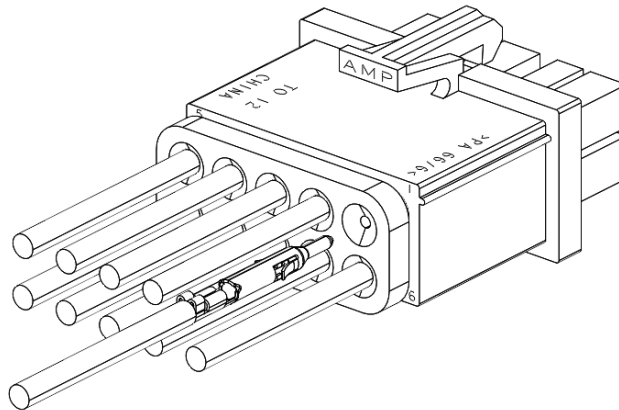

Figure 7
4. Grasp the wire directly behind the insulation barrel and push the contact straight into the housing cavity until contact locks in place. See Figure 7.